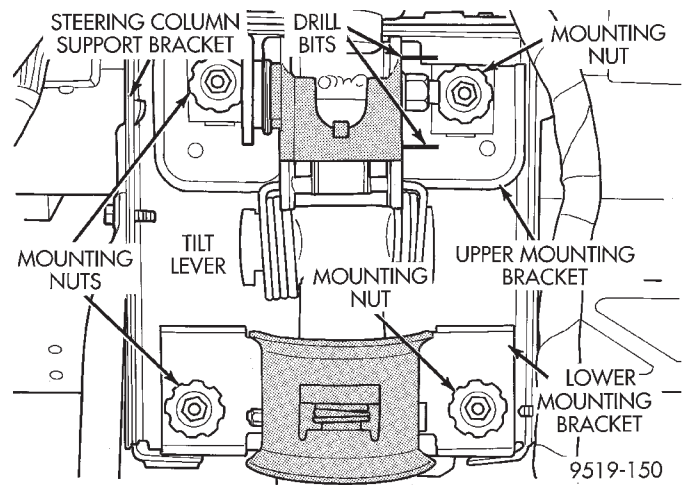

Fig. 18 Steering Column Upper And Lower Mounting Bracket Nuts
(24) Remove the 2 upper steering column assembly mounting bracket to support bracket nuts. Then remove the 2 lower steering column assembly mounting bracket to support bracket nuts (Fig. 18).
(25) Remove steering column assembly from vehicle through the drivers door of the passenger compartment. Use care to avoid damaging the paint or interior trim.